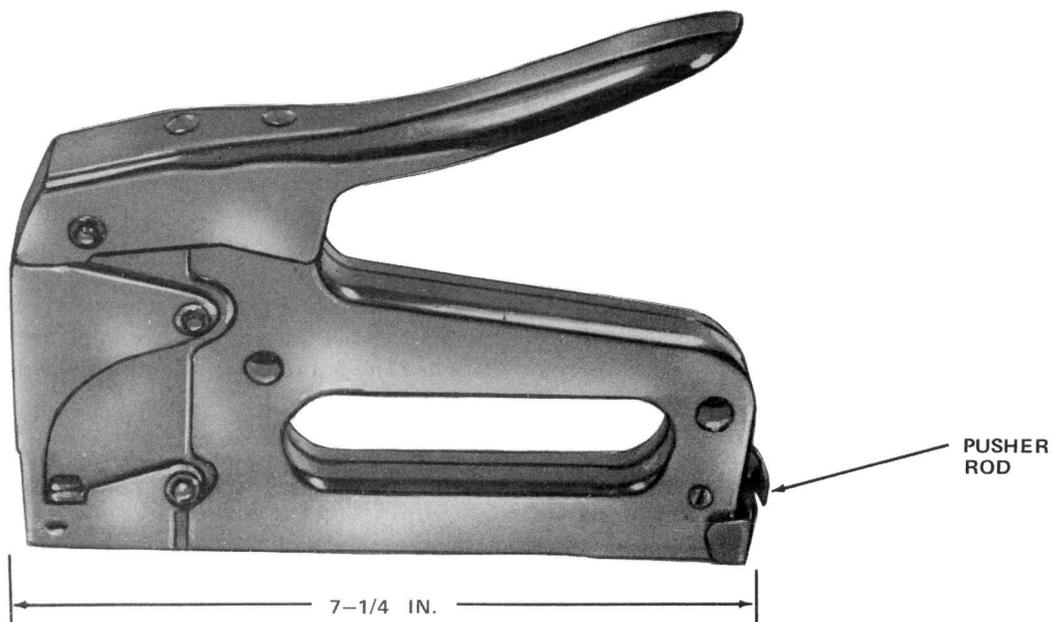

Fig. 1—P Stapler
2.02 The designated P Stapler is a universal designation used by all manufacturers for the stapler using K, L, and M staples to fasten D- and H-station wire. The appearance may differ from the illustration (Fig. 1) but its basic design features and operation will be the same.